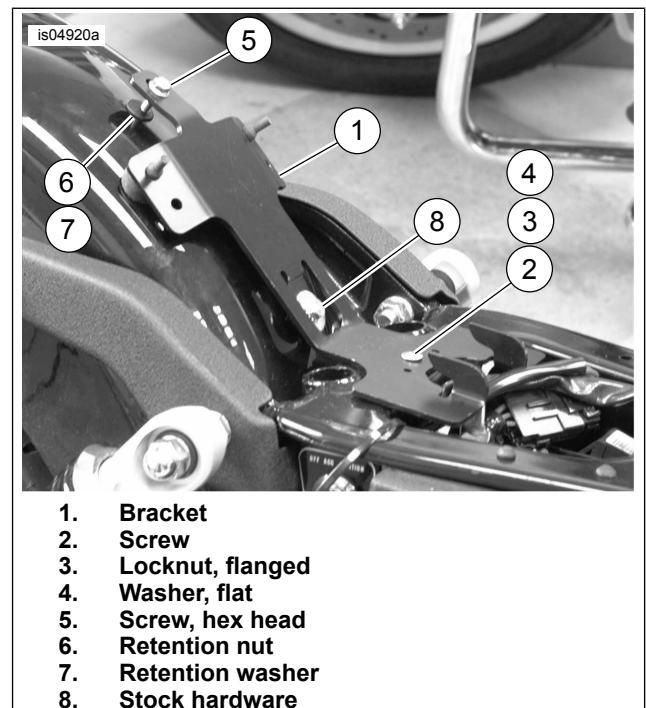

Figure 1. Bracket Installation
6. See Figure 1. Place the black bracket (1) from the kit onto the frame as shown.
8. See Figure 1. Install the screw (2) in the hole on the forward edge of the bracket. Attach the locknut (3) and washer (4) from under the frame. Tighten to 10.85 N·m (96 in-lbs).